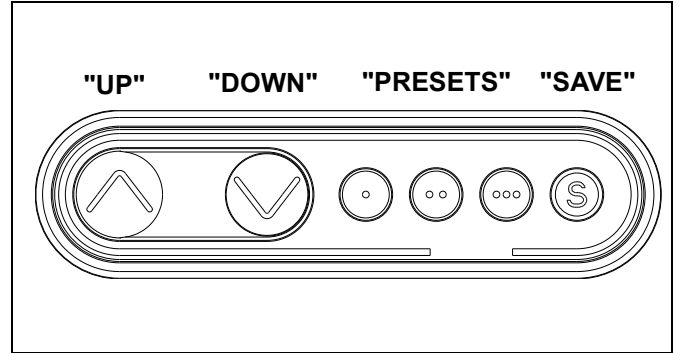

Figure 15
- Press "UP" or "DOWN" buttons to raise or lower height as desired. (See Figure 15)
- Adjust height until desired preset level is reached using "UP" and "DOWN" buttons. (See Figure 15)
- Press "SAVE" button. (See Figure 15)
- Press one of three preset buttons (., .. or ...) to save preset position. (See Figure 15)